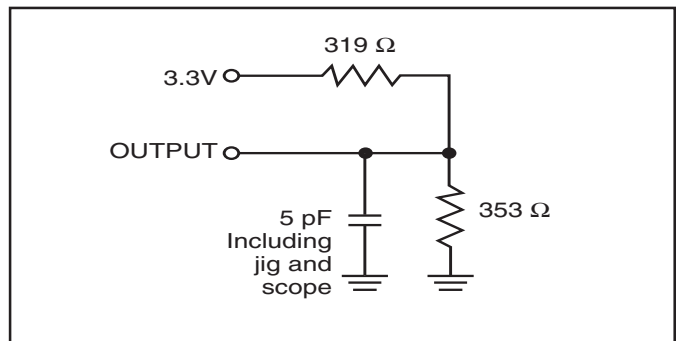

Figure 2.
2. Tested with the load in Figure 2. Transition is measured  $\pm 500$  mV from steady-state voltage.
2. Tested with the load in Figure 2. Transition is measured  $\pm 500$  mV from steady-state voltage. Not 100% tested.
2. Tested with the load in Figure 2. Transition is measured ±500 mV from steady-state voltage. Not 100% tested.